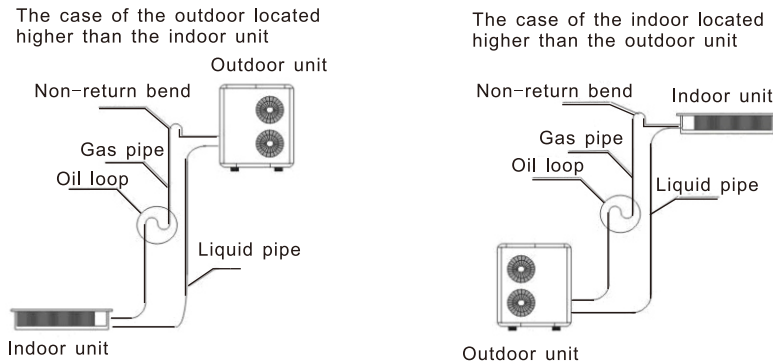

Fig 10
■ When connecting flared connectors , the two pipes must be aligned with the same center. Then put on the nut and revolve it in and then tighten it with two spanners , see Fig 10.